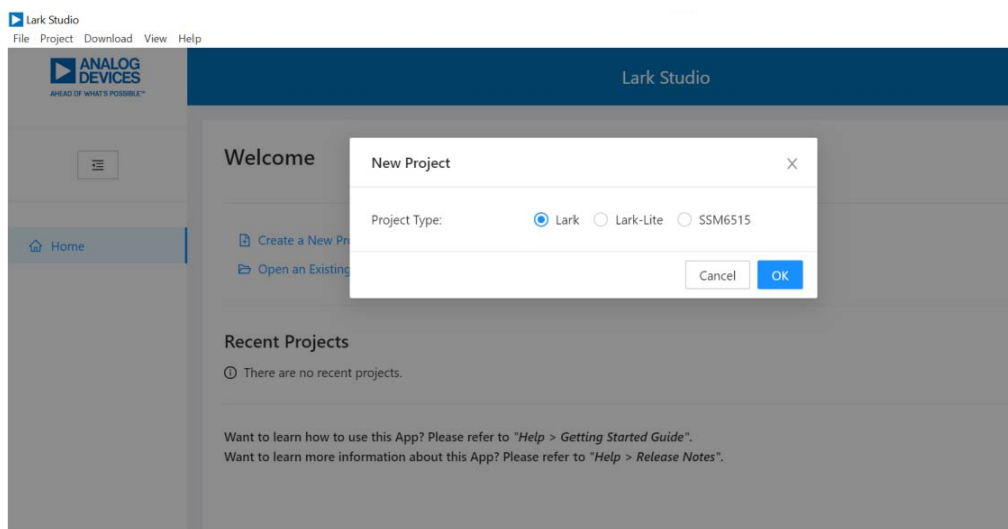

Figure 3. Create a New Project
3. Go to the **Project** and select **New Project** from the **dropdown** menu, or select **Create a New Project** in the **Welcome** section to create a new project, as shown in Figure 3. The **New Project** window shows the **Project Type**: options.